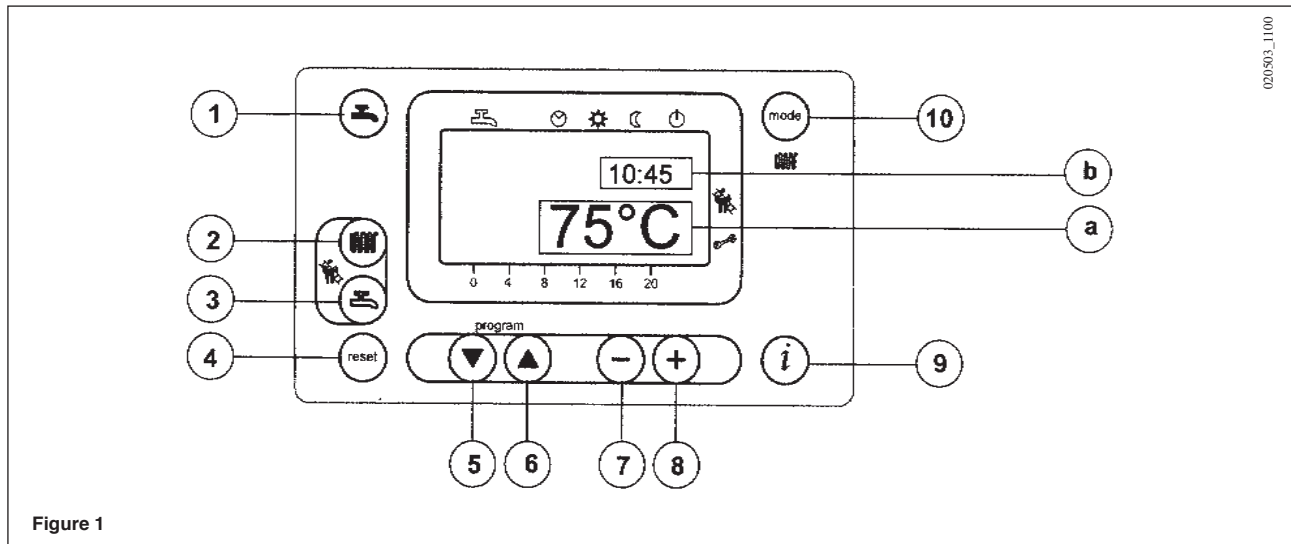
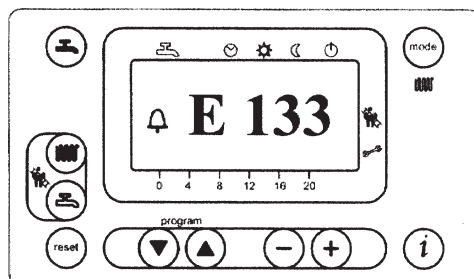

Figure 1
Figure 4
- Press the  key (2-figure 1) to set the central heating water temperature;
- Press either of the   keys (1 or 10 - figure 1) to save and return to the main menu.
N.B – With the outdoor sensor connected, the  key (2 - figure 1) can be used to shift the central heating curve. Press the   keys to decrease or increase the room temperature in the premises to be heated.
- Press the  key (3-figure 1) to set the maximum domestic hot water temperature;
The fault warnings appear on the main display (figure 1 a) together with the  symbol (Figure 4).